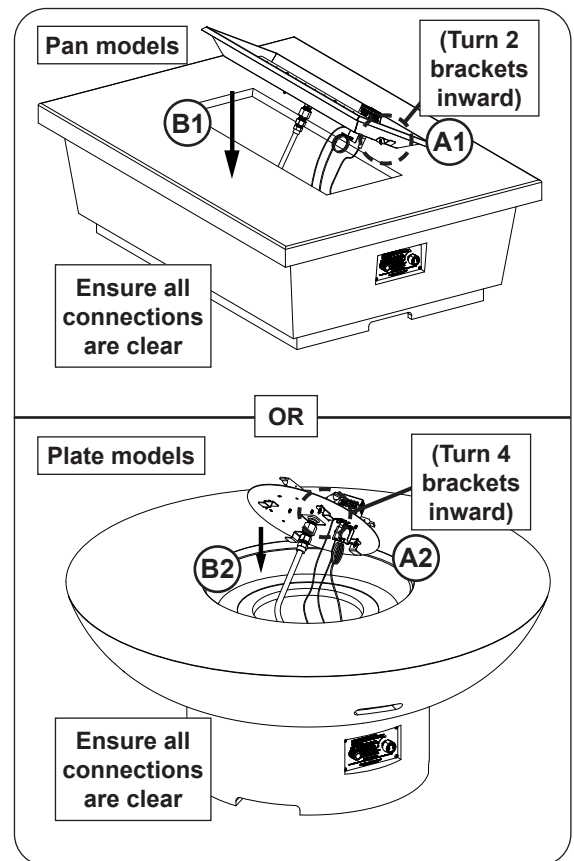

Fig. 41-2 Insert burner assembly
1. Ensure that the 2-4 burner brackets are turned inward, then insert the burner assembly (see Fig. 41-2, A-B).